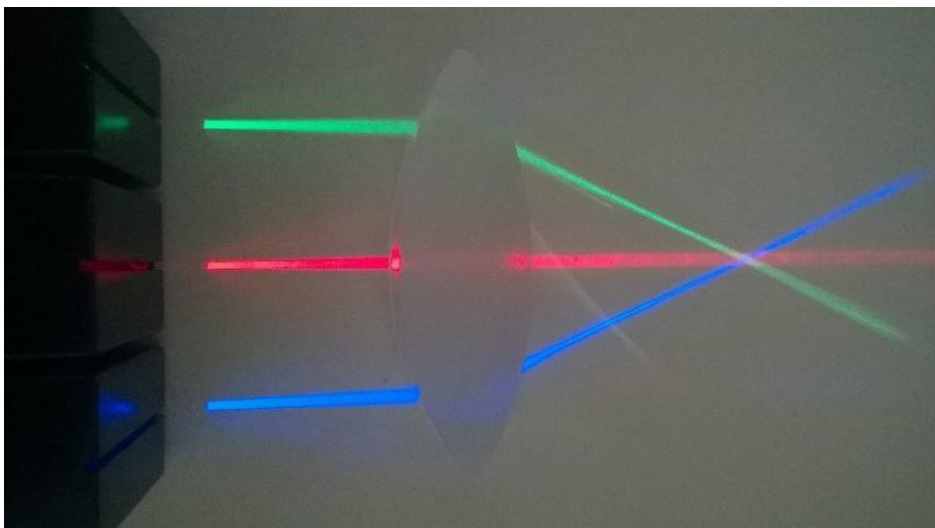

Figure 1: Light rays through a Convex lens.
**Convex lenses** are thicker in the middle than at the ends. Take a look at Figure 1. Here, three rays of light are shining through a convex lens. When they enter, they're all shining straight ahead. As they pass through the lens, however, **refraction** causes the rays on the ends to bend inwards, towards the lens. This is because the glass of the lens is denser than the air around it.